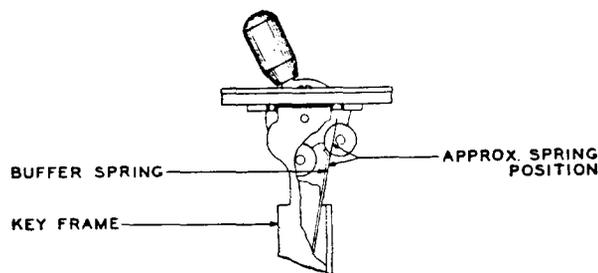

Fig. 2 — Buffer Spring Position
1.21 *Relation of Buffer Spring to Key Frame*— Spring shall not touch sides of key frame and meet rollers as in Fig. 2.
1.23 *Spring Clearance* — .012" (Readj. .015"). .040" between non-locking plunger springs and rubber separators on traveling springs. .010" between right-hand (FC) spring and separator on (T-1) spring of Fig. 2.